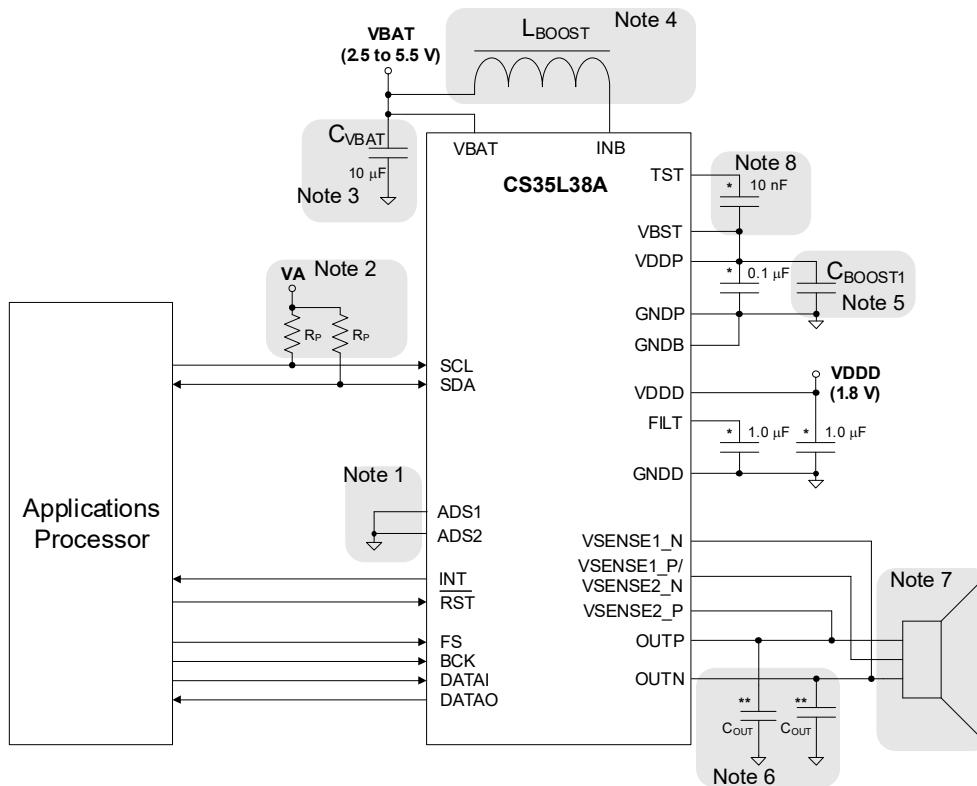
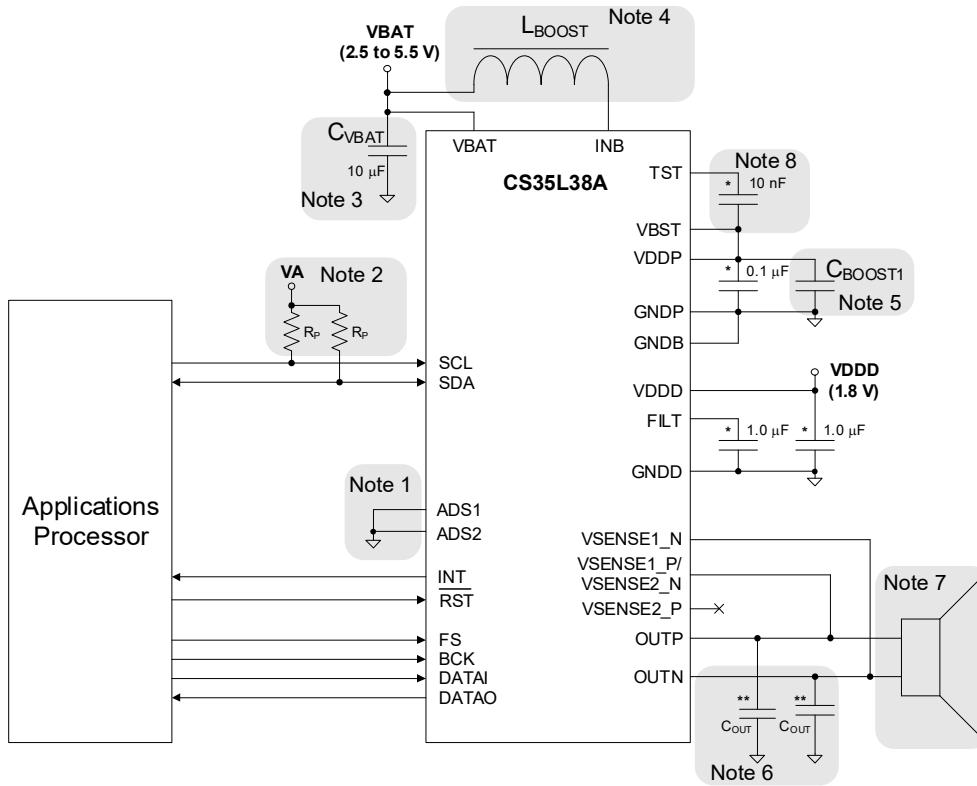

Figure 2-1. Typical Connection Diagram—Connection to 3-Terminal Speaker
Figure 2-2. Typical Connection Diagram—Connection to 2-Terminal Speaker
- Fig. 2-1 and Fig. 2-2 are intended to provide samples of possible connection schemes and do not encompass all variations.
Table 2-1. Typical Component Values and Types (Notes for Fig. 2-1 and Fig. 2-2)
Test conditions (unless specified otherwise): Fig. 2-1 and Fig. 2-2 show typical connections to, and passive components used with, the CS35L38A; input test signal is a 24 bit full-scale 997 Hz sine wave with 1 LSB of triangular PDF dither applied; typical/min/max performance data taken with VDDD = 1.8 V, VBAT = 3.6 V; TA = 25°C; VDDP is automatically adjusted between VBAT and 12.0 V by Class H based on signal level; GNDD = GNDB = GNDP = 0 V; AMP_GAIN_PCM = 19 dB; AMP_VOL_PCM = 0 dB; AMP_RAMP_PCM = 000; measurement bandwidth is 20 Hz to 20 kHz; Fs = 48 kHz; LBST = 1.0 µH; fPLL_OUT = 192 MHz. Table 3-1 describes some parameters in detail. Specifications are valid following the completion of the device initialization sequence defined in Section 4.1.3.
Test conditions (unless specified otherwise): Fig. 2-1 and Fig. 2-2 show typical connections to, and passive components used with, the CS35L38A; input test signal is a 24 bit full-scale 997 Hz sine wave with 1 LSB of triangular PDF dither applied; typical/min/max performance data taken with VDDD = 1.8 V, VBAT = 3.6 V, VDDP = VBST = 12.0 V; GNDD = GNDB = GNDP = 0 V; TA typ/min/max = 25°C; AMP_GAIN_PCM = 19 dB; AMP_VOL_PCM = 0 dB; AMP_RAMP_PCM = 000; BST_IPK = BST_IPK_CTL-MAX; measurement bandwidth is 20 Hz–20 kHz AES-17; Fs = 48.0 kHz; LBST = 1.0 µH; fPLL_OUT = 192 MHz; simulated speaker load = 8 Ω 33 µH. Table 3-1 describes some parameters in detail. Specifications are valid following the completion of the device initialization sequence defined in Section 4.1.3.
Test conditions (unless specified otherwise): Fig. 2-1 and Fig. 2-2 show typical connections to, and passive components used with, the CS35L38A; input test signal is a 24 bit full-scale 997 Hz sine wave with 1 LSB of triangular PDF dither applied; typical/min/max performance data taken with VDDD = 1.8 V, VBAT = 3.6 V, VDDP = VBST = 12.0 V; GNDD = GNDB = GNDP = 0 V; TA typ/min/max = 25°C; AMP_GAIN_PCM = 19 dB; AMP_VOL_PCM = 0 dB; AMP_RAMP_PCM = 000; BST_IPK = BST_IPK_CTL-MAX; measurement bandwidth is 20 Hz–20 kHz AES-17; Fs = 48.0 kHz; L_BST = 1.0 μH; f_PLL_OUT = 192 MHz; simulated speaker load = 8 Ω 33 μH. Table 3-1 describes some parameters in detail. Specifications are valid following the completion of the device initialization sequence defined in Section 4.1.3.